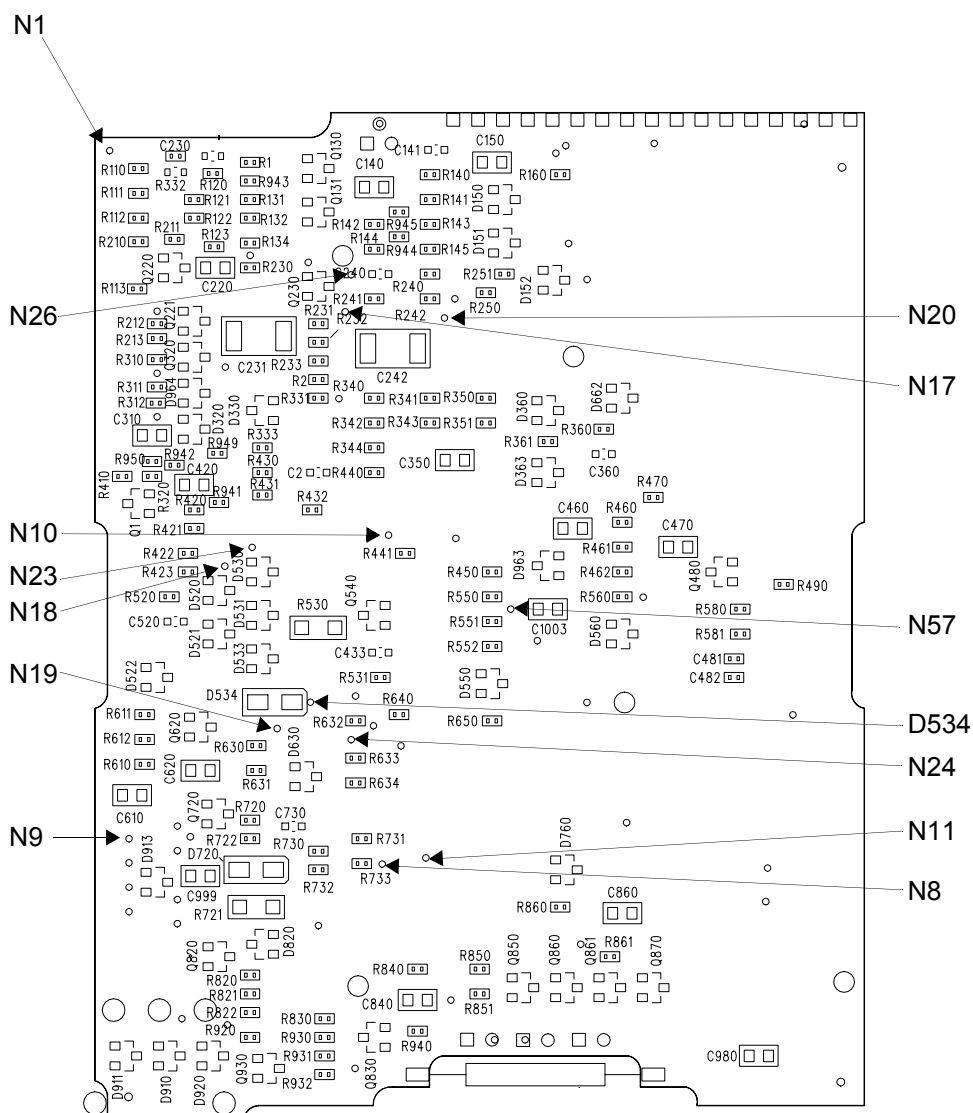

Figure 4-7: Main board components, back view, for P/N 670-0303-11 (and later versions)
- 4 Ensure that the ON/OFF switch (SW910) is in the OFF position. Verify a voltage reading of 0.0 V at +VSW (P710, pin 2). For P/N 670-0303-11 assemblies (and later versions), verify the voltage at N9. Use N17 (AGND) as ground reference. Refer to Figure 4-7 on page 4-11 to verify pad location.
- 8 Verify a voltage reading of greater than +5.65 VDC at + VPS (L530) for P/N 670-0303-10 and earlier versions. For P/N 670-0303-11 and later versions, verify the voltage reading at the cathode side of D534. Refer to figure *Figure 4-7* on page 4-11.
Main board assemblies of P/N 670-0303-11 (and later versions) require a board test fixture to calibrate ADR. If ADR is out of specification, recalibrate on an ABP board test fixture. ADR can be measured at N10. To locate this point, refer to *Figure 4-7* on page 4-11. Use N17 (AGND) as ground reference.
*In the following checks and adjustments, TP730 must be used as a ground test point for board assemblies P/N 670-0303-10 (and earlier versions). For board assemblies P/N 670-0303-11 (and later versions), use N17 (AGND) as ground reference. Refer to Figure 4-7 on page 4-11 to verify pin location.*
- 1 Monitor TP731, ADR\_LOW, with a DVM. For P/N 670-0303-11 (and later versions), monitor N8. Refer to *Figure 4-7* on page 4-11.
- 3 Monitor TP630, PRESS, with a DVM. Monitor N24, PRES\_OUT, for P/N 670-0303-11 assemblies (and later versions). Refer to *Figure 4-7* on page 4-11.
- 8 Verify a voltage reading of between 3.060 VDC and 3.070 VDC at TP630 (sphygmomanometer and display must read 200 mmHg). Monitor N24, PRES\_OUT, for P/N 670-0303-11 assemblies (and later versions). Refer to *Figure 4-7* on page 4-11.
- 1 Monitor U440 pin 7 with an oscilloscope for main board assemblies P/N 670-0303-10 (and earlier versions). Monitor N57 for main board assemblies P/N 670-0303-11 (and later versions). Refer to *Figure 4-7* on page 4-11.
- 2 Check TP630, PRESS, for <10 mV of noise. Monitor N24, PRES\_OUT, for P/N 670-0303-11 assemblies (and later versions). Refer to *Figure 4-7* on page 4-11.
- 1 Connect a 1 $\mu$ F capacitor between the scope probe and TP631 (OSC\_OUT) for P/N 670-0303-10 assemblies (and earlier versions). For 670-0303-11 assemblies (and later versions), connect the probe to N26 (OSC\_OUT). Refer to *Figure 4-7* on page 4-11.